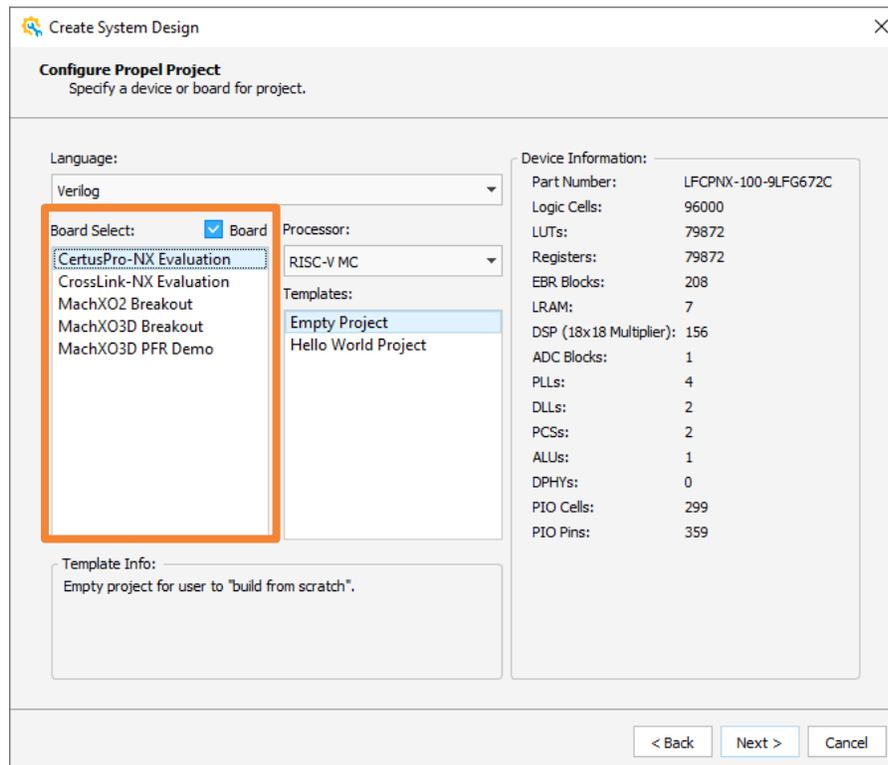

Figure 2.5. Specify a Board for Project
- Click **Board**. The Propel Project Configure wizard is shown in the **Board Select:** area (Figure 2.5). Select the desired board, such as Crosslink-NX Evaluation.